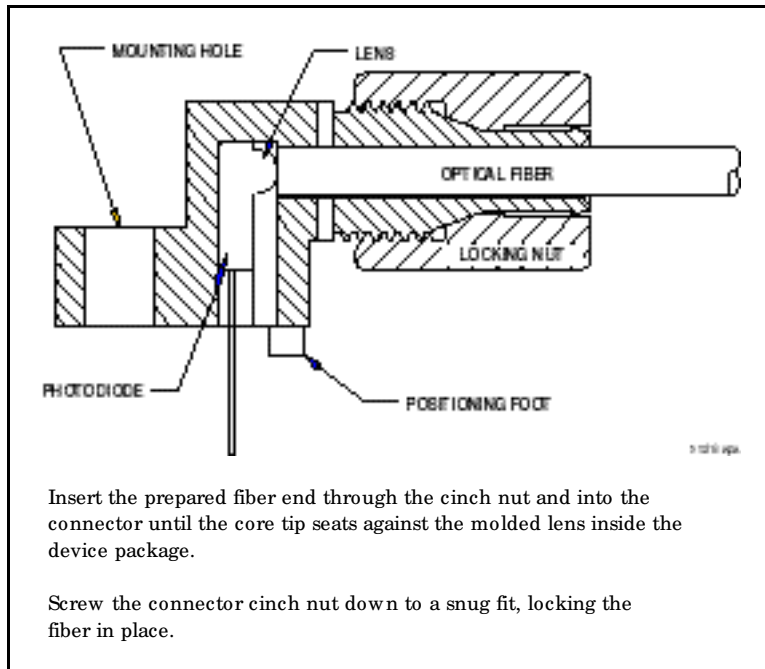

Figure 4. Cross-section of fiber optic LED and cable.
- A4. *Insert one end of the optical fiber into the fiber optic LED, following the instructions in **Figure 4**.*
Insert the unattached fiber end into the fiber optic phototransistor, following the same steps in **Figure 4**.